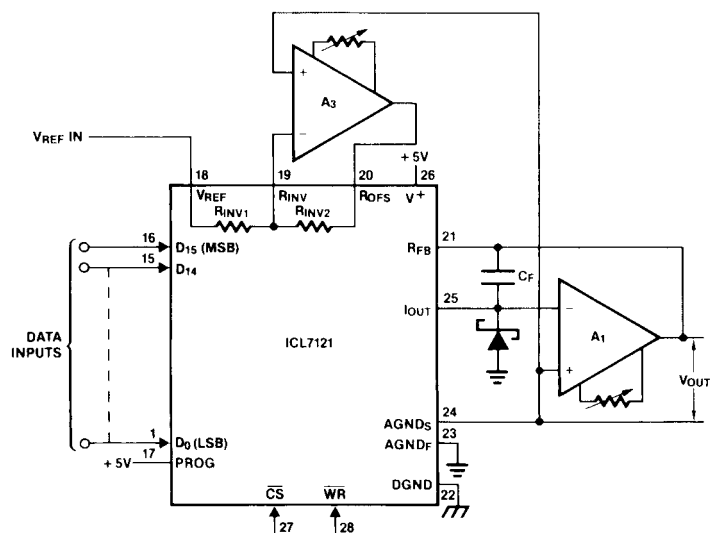

FIGURE 1. BIPOLAR OPERATION, FOUR-QUADRANT
- Refer to Figure 1. Measured at output amplifier A1 (A1 having zero offset). $V_{REF} = +5V$. Adjustable to zero with external potentiometer.
The circuit diagram for the normal configuration of the ICL7121 is shown in Figure 1. The positive and negative reference voltages allow full four-quadrant multiplication. Amplifier A_3 , together with the internal resistors R_{INV1} and R_{INV2} , forms a simple voltage inverter circuit to generate $-V_{REF}$ for the R_{OFS} offset input pin. This will give the nominal "digital input code/analog output value" relationship of Table 1. Note that the value of R_{FB} is equal to $2R$ so full scale range is $2V_{REF}$.